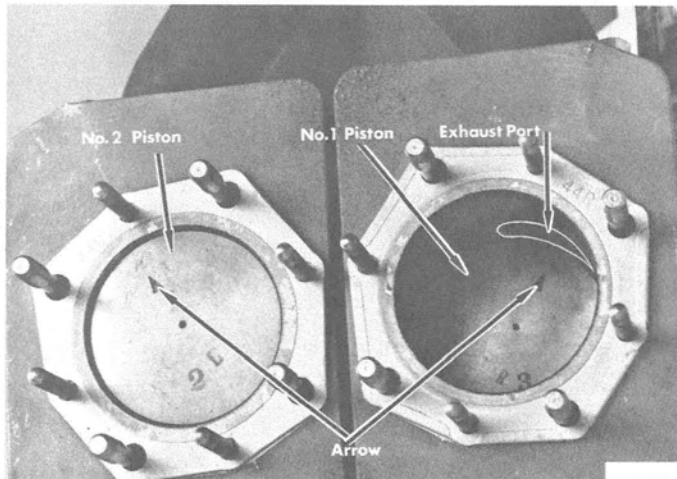

Figure 7. Installing Pistons
2. Position piston on connecting rod with arrow on dome of piston toward exhaust port of cylinder. (Figure 7)